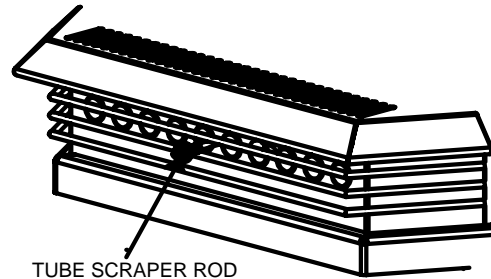

Figure 25. Tube scraper rod to clean the heat exchanger pipes.
1. Pull and push the cleaning rod which is located in the center, above the door (See Figure 25). This will remove the ash deposits on the heat